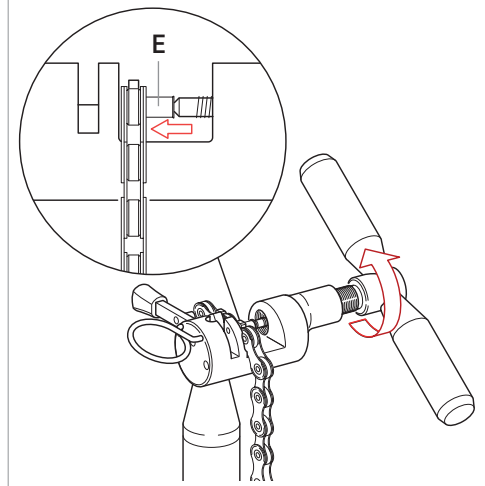

Fig.14
- While exerting a uniform force, screw in the tool (Fig. 14) so that the bushing **ULTRA-LINK 5-CN-RE500 (11s) / 5-CN-SR600 (12s)** (E) has completely entered the thickness of the chain.
- Insert the protruding part of the guide into the hole provided at the base of the tool and split it by bending (Fig. 14).